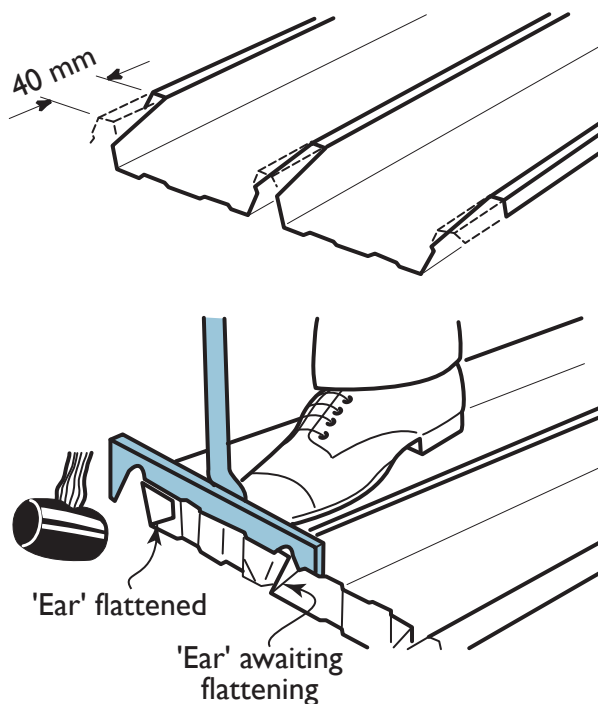

Figure 10.1.5
1. Cut the top of each rib before turning-up the pans (Figure 10.1.5). Turn-up the pans as described before.